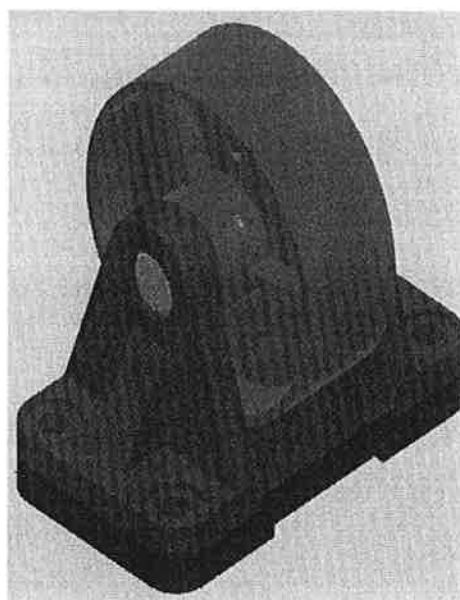

Figure 14-43
1. Insert the Wheel component and join it as shown in Figure 14-43.